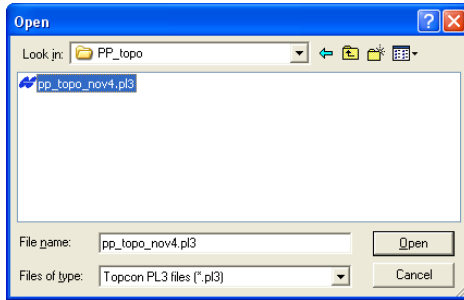

Figure 7-3. Open 3D Plane Surface File
2. On the **Open** dialog box, navigate to the location of the file, select the file type as 3D Plane (*.pl3), select the desired file, and click **Open** (Figure 7-3).